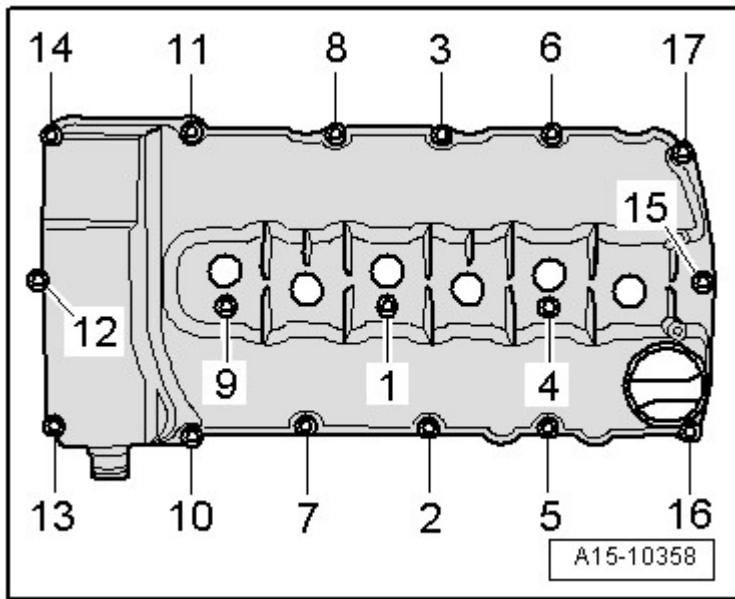

Fig. 7: Identifying Cylinder Head Cover Bolt Loosening Sequence
- Tightening sequence **Fig. 7**